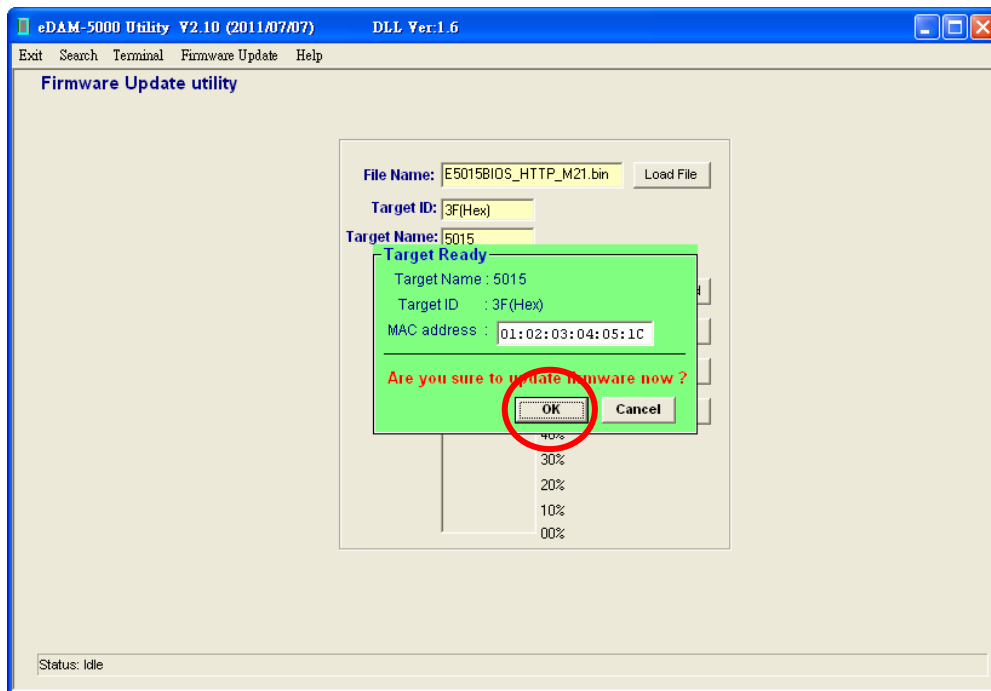

Figure 15-9
9. If module found. The “Target ready” window pop up (see Figure 15-9) .Click “OK” button to start